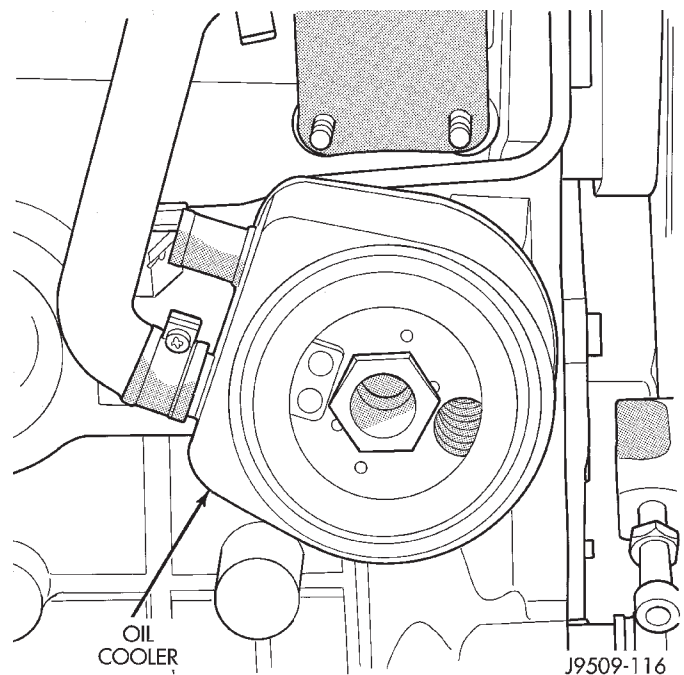

Fig. 40 Oil Cooler
- (1) Remove oil filter.
- (2) Remove oil filter adapter with socket wrench.
- (3) Remove oil filter base, allen bolt in center of adapter.
- (4) Remove oil cooler adapter bolt.
- (5) Remove oil cooler (Fig. 40).